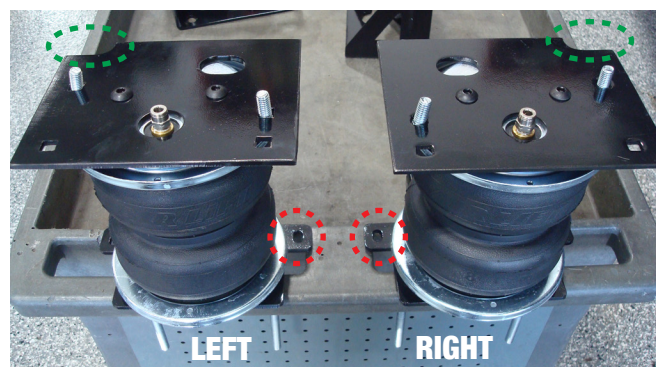

Fig. 16
- The other side is the same but mirrored (Fig. 16)
- Place the lower bracket assembly onto the air spring assembly and secure it with two 3/8"-24 button head screws (J). Torque them to no more than 20 lb.-ft. (27Nm)
- Repeat these steps for the other side. The completed assemblies are shown in Figure 16.
**NOTE** For proper installation of the assemblies make sure the tabs (circled in red) are on the opposite side of the air port or on the same side as the upper bracket notches (circled in green) (Fig. 16).